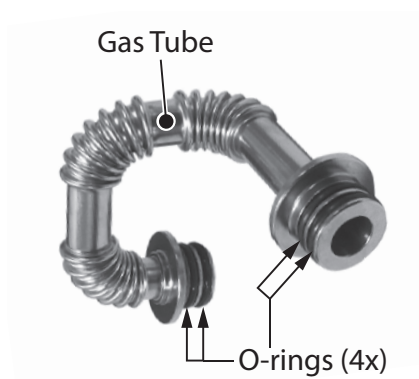

Figure 95 - Install O-rings to gas tube
- Locate the new gas tube and four (4) O-rings provided in the kit. Install O-rings to grooves located on each end of gas tube as shown in Figure 95. Install gas tube to venturi and gas valve.